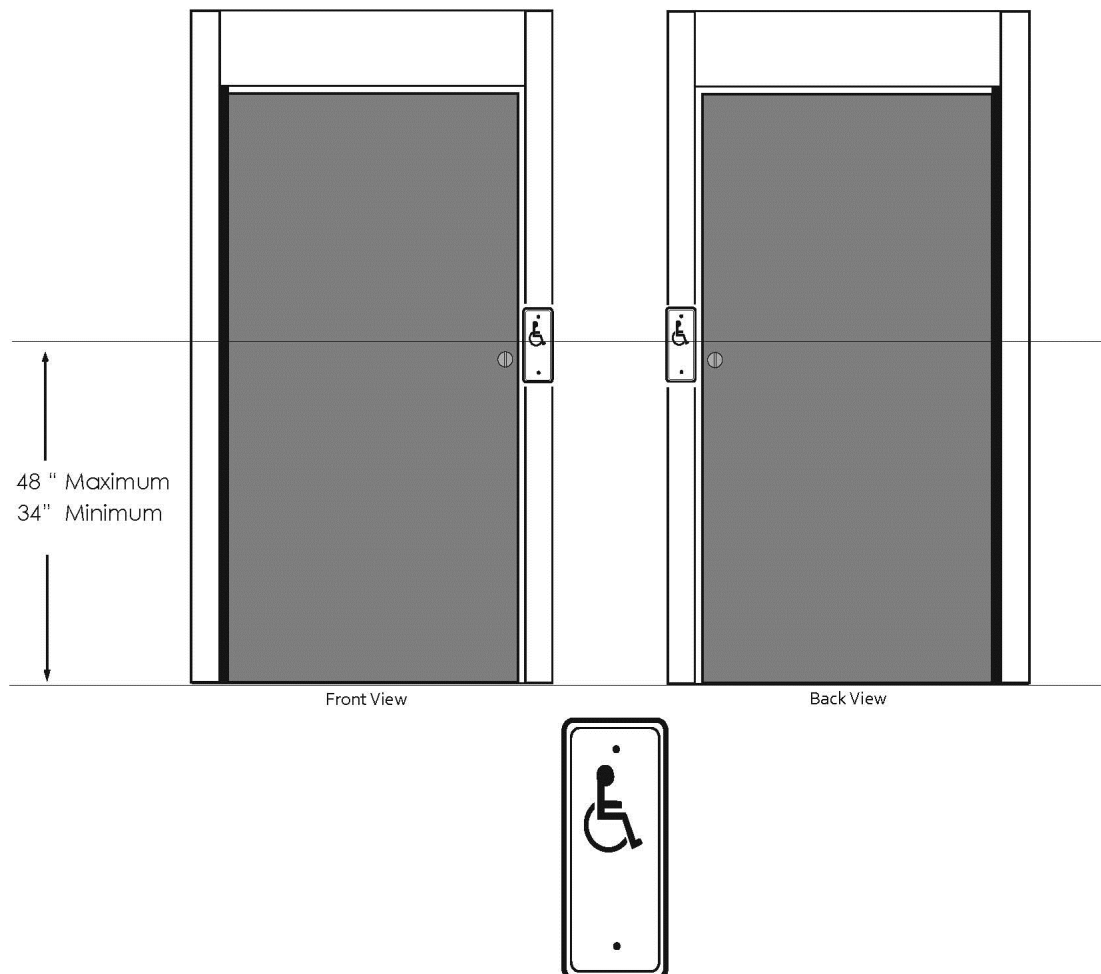

Figure 27
1. Refer to Figure 27, and **INSTALL** the push button switches. **ENSURE** the following: